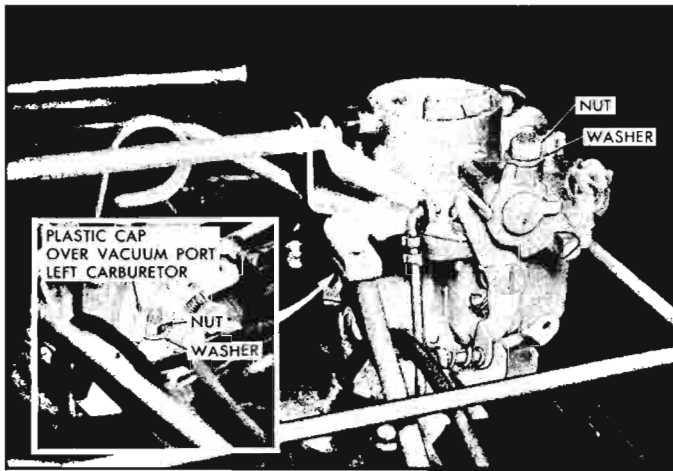
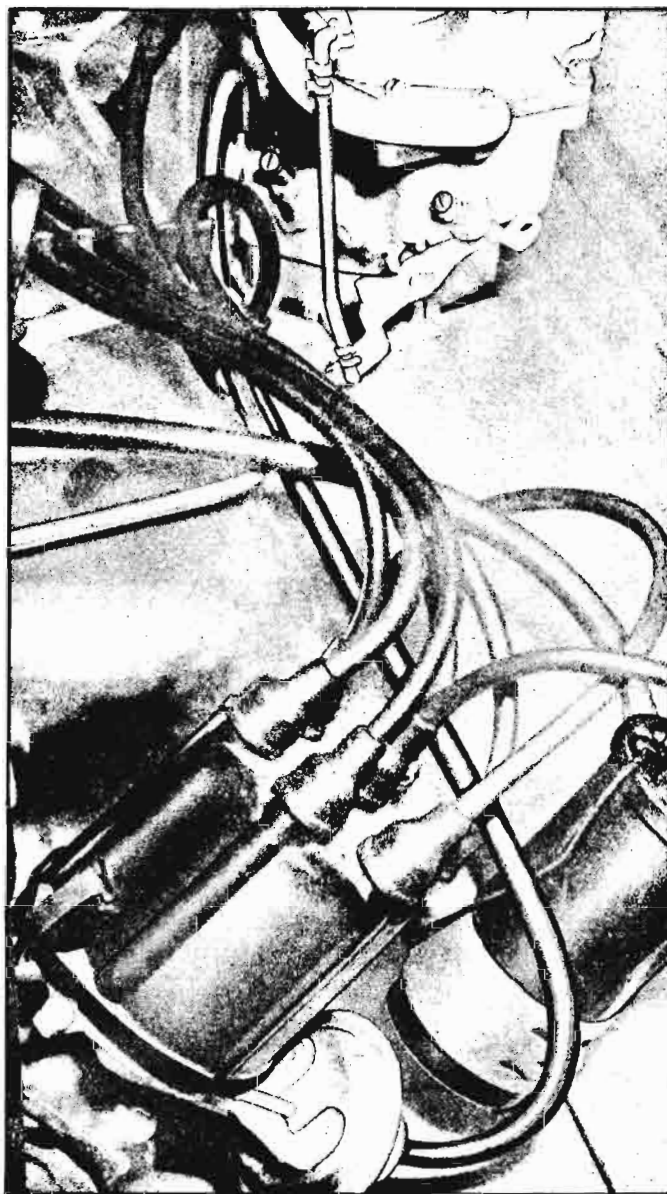

Fig. 9-16—Removing Carburetor
Fig. 9-27—Vacuum Advance Line
6. Remove two nuts and washers attaching carburetor to intake manifold studs (fig. 9-16).
1. Install insulator block in place, install carburetor on intake manifold studs. Install two attaching nuts and washers and tighten evenly (fig. 9-16). On right carburetor, replace vacuum advance line (fig. 9-27) with other end to distributor advance. On the left carburetor, the vacuum port tube is capped with a plastic cap (fig. 9-1).